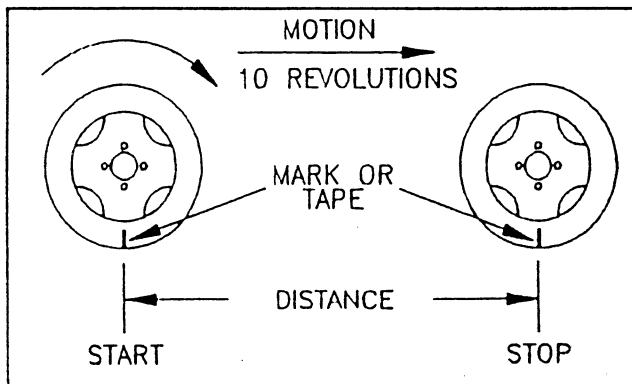

FIG. 3.
1. Place chalk mark or tape on vehicle tire, on which Speed Sensor is mounted. See FIG. 3.